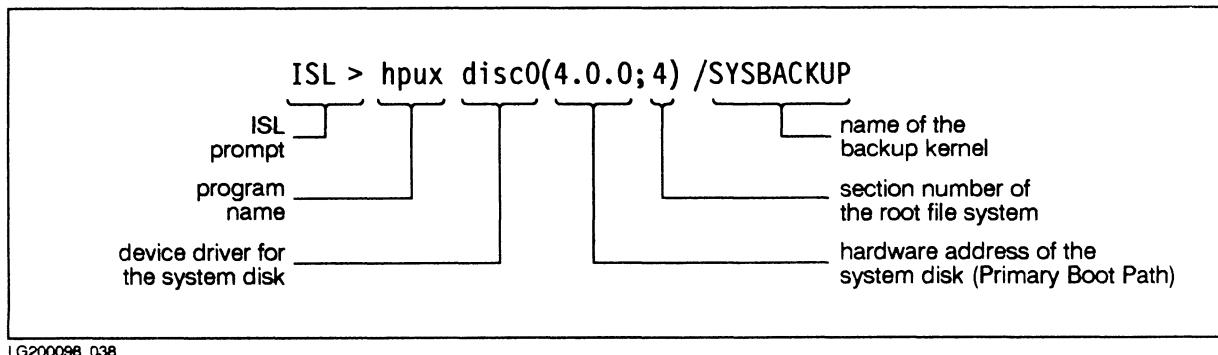

Figure 5–6. The Command to Boot From the Backup Kernel
5. Using the information you acquired before shutting the system down (see previous section), formulate the ISL command using the syntax in Figure 5–6.
The sample command in Figure 5–6 is for a system with an HP-IB system disk (**disc0**), at hardware address **4.0.0**. The root file system is in section 4, and the name of the backup kernel is **/SYSBCKUP**. If you named the backup kernel something other than **/SYSBCKUP**, use that name instead. Once you have the backup kernel running, you can re-edit the **S800** file and try the process again.